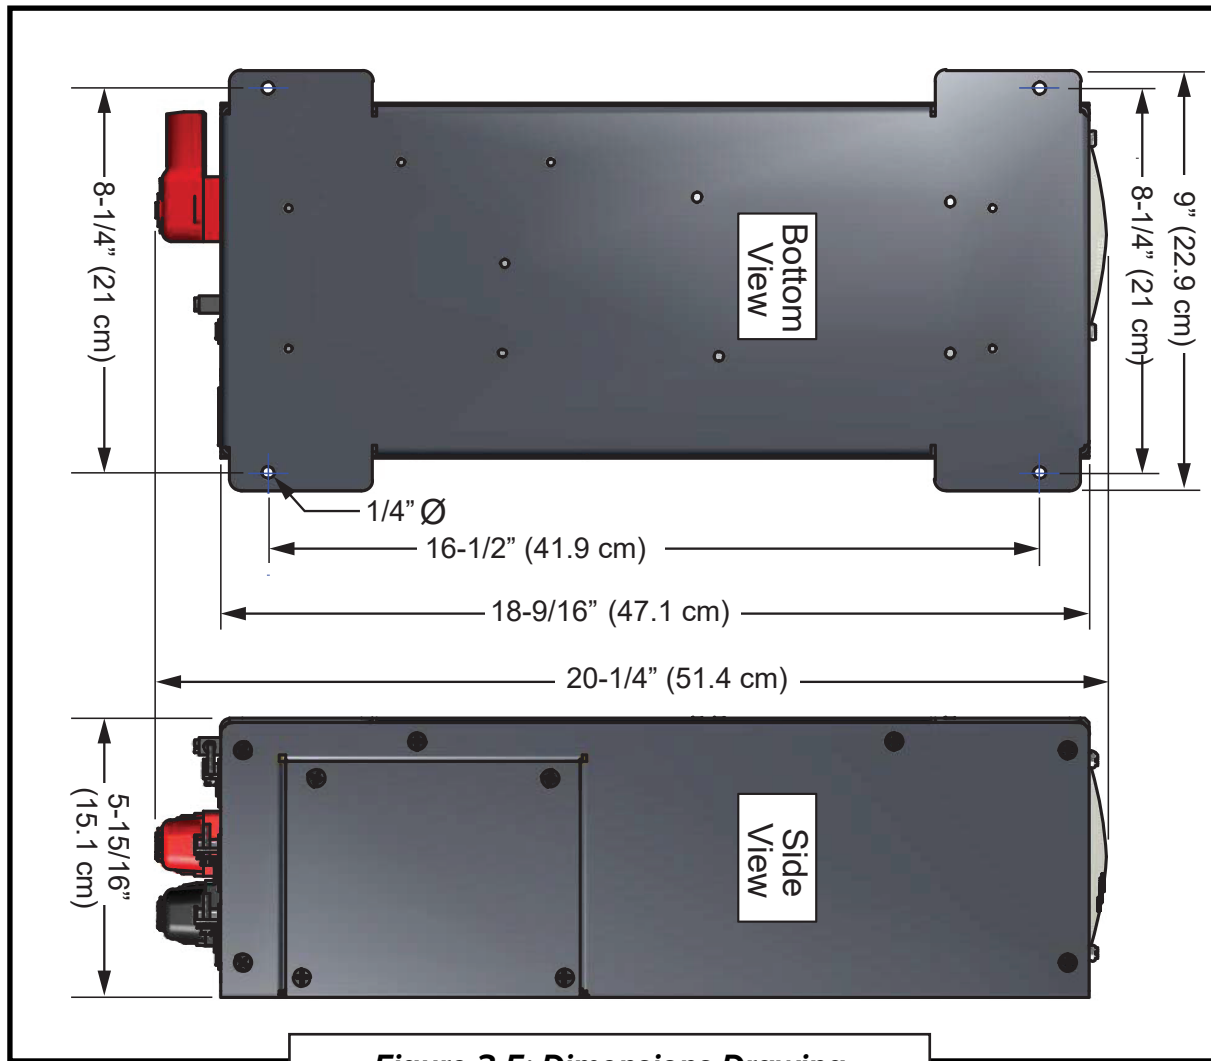

Figure 3-5: Dimensions Drawing
- Regulations dictate how the inverter can be mounted. (See **"Figure 3-5: Approved Mounting Orientations"**) to determine how you can mount your EPEQ® INVERTER3600.